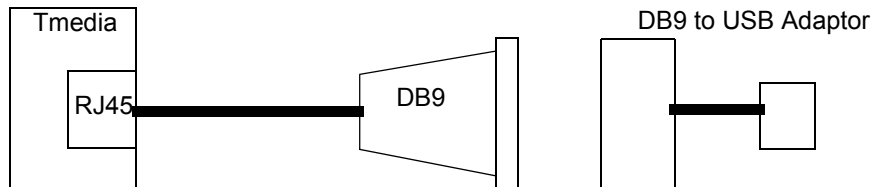

Figure 3.2 Conceptual View of a Serial Connection from the Tmedia unit to a Computer
2. If your computer's serial port features a DB9 connector, use the DB9 to RJ-45 adapter supplied with your Tmedia unit. If your computer's serial port features a USB connector, you will need to provide a USB to DB9 adaptor. Refer to figure 3.2 on page 26.